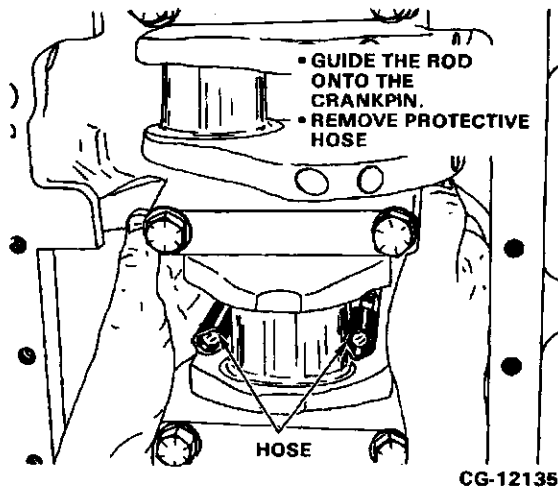

Figure 6.58. Guide Rods onto Crankpin
7. Guide the connecting rod into place on the crankpin, then remove the rubber hose from the bolts. Refer to Figure 6.58.